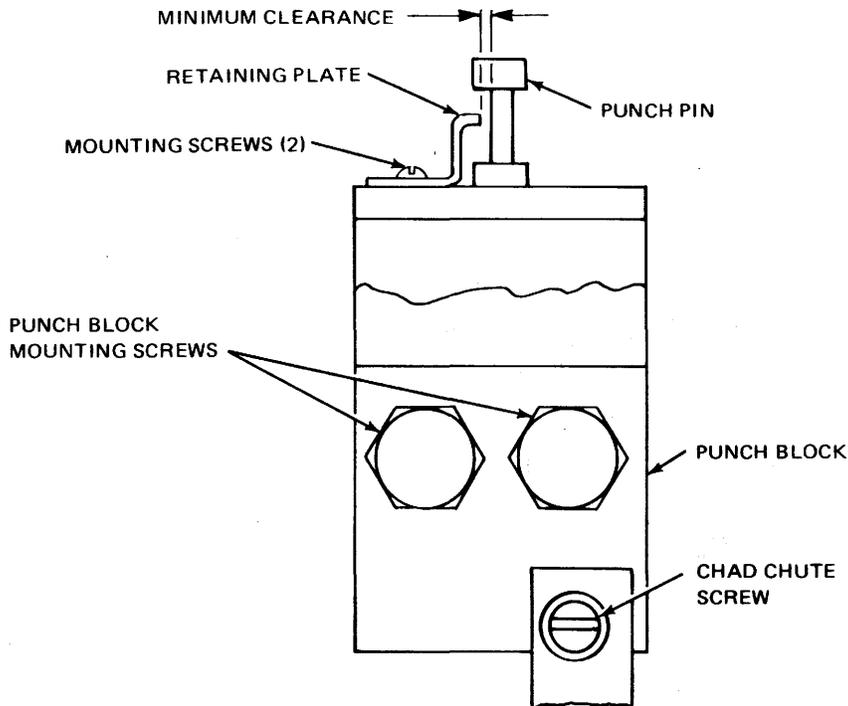

Figure 6-24. Punch Pin Adjustment.
- c. Remove two punch block mounting screws (see figure 6-24).